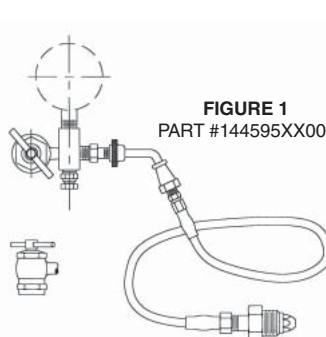
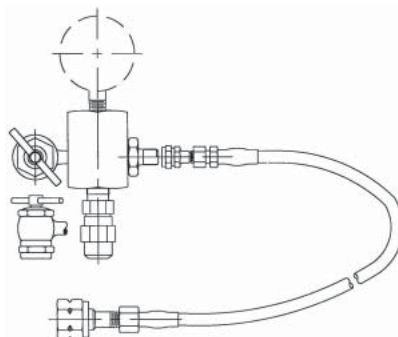

FIGURE 1
FIGURE 3
If water pumped nitrogen is not available, oil-pumped nitrogen may be used. (C.G.A. standards: Nitrogen gas bottles for water pumped nitrogen has a right-hand valve thread which requires charging and gauging assembly †144595XX00 for units up to 3000 psi. Oil-pumped nitrogen requires a left-handed valve thread (use †144596XX00). For all 3000 psi rated accumulators, use assembly †144595XX00 (Figure 1). For accumulators rated over 3000 psi and the precharge requirement is above 2300 psi, use †870816XX00 (See Figure 3).
- (G) Crack open nitrogen bottle valve and **slowly** fill accumulator. Shut off when gauge indicates desired pre-charge.
- (H) Let the pre-charge set for 10 to 15 minutes. This will allow the gas temperature to stabilize. If the desired pre-charge is exceeded, close nitrogen bottle valve, then slowly open bleed valve (Figure 1). Do not reduce pre-charge by depressing valve core with a foreign object. High pressure may rupture rubber valve seat.
- (I) When finished pre-charging accumulator, turn "T" handle all the way out on gas chuck (Figure 1), then open bleed valve.
- (1) Remove gas valve guard and gas valve cap.
- (2) Back gas chuck "T" handle all the way out (counter clockwise) before attaching charging assembly to accumulator gas valve.
- (3) Close bleed valve.
- (4) Attach swivel nut to gas valve and tighten (10-15 in. lb.) (11.5-17 cm kg).
- (5) Turn gas chuck "T" handle all the way down. This will depress core in gas valve and check pressure.
- (6) To remove gauging assembly turn "T" handle all the way out on gas chuck (Figure 1), then open bleed valve.
- (7) Hold gas valve from turning, loosen swivel nut, remove assembly.
- (8) Replace gas valve cap (10-15 in. lbs.) (11.5-17 cm kg) and valve guard.